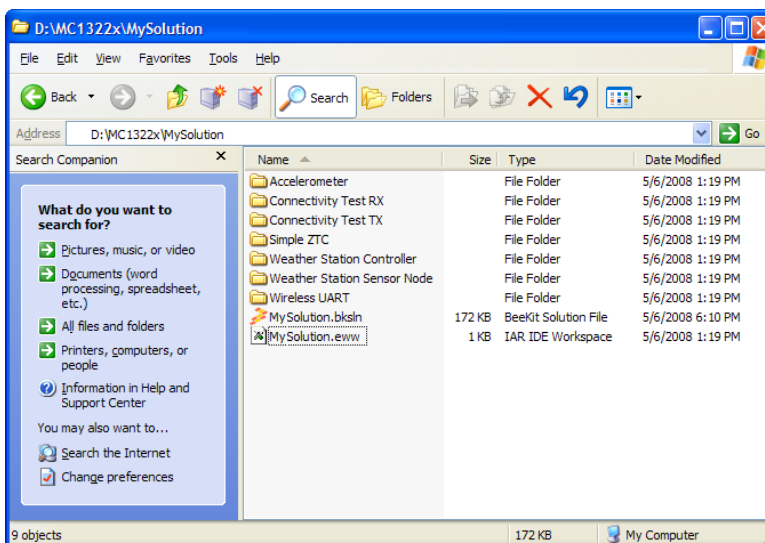

Figure 3-2. My Solution EWW File Location
1. Open the [Solution Name].eww file as shown in Figure 3-2.